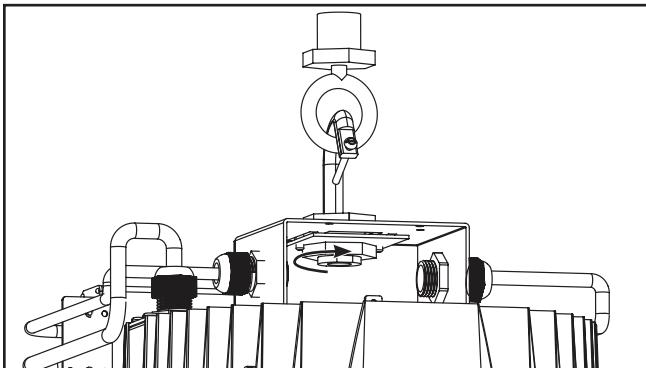

Figure 5.
9. Secure jam nut to the mounting hook threads inside of junction box and tighten it securely against the adjustable mounting plate. (Figure 5)